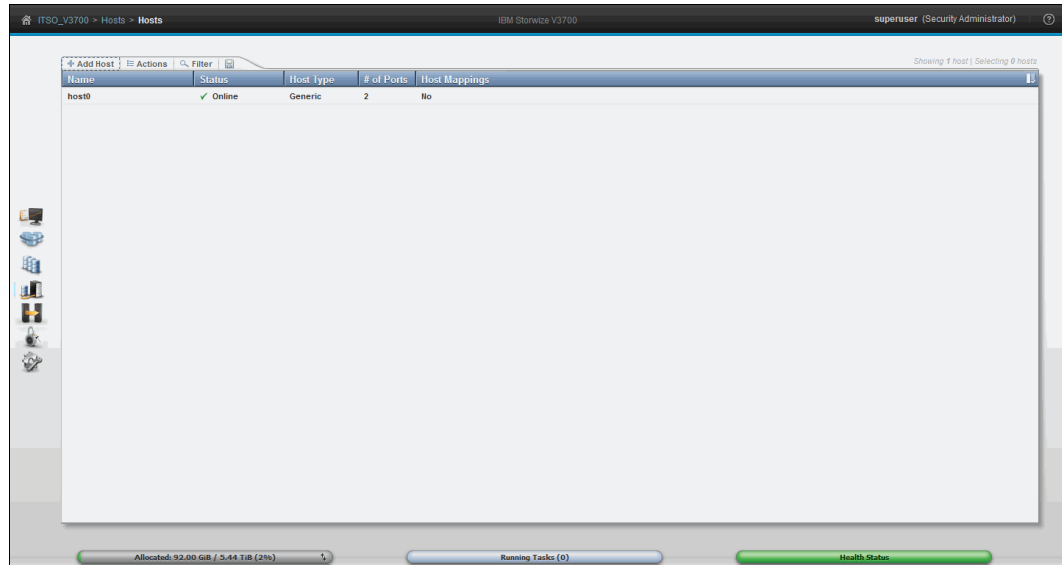

Figure 4-38 The Hosts view with the newly created host object listed
- Click **Close** to return to the host view, which should now list your newly created host object, as shown in Figure 4-38.